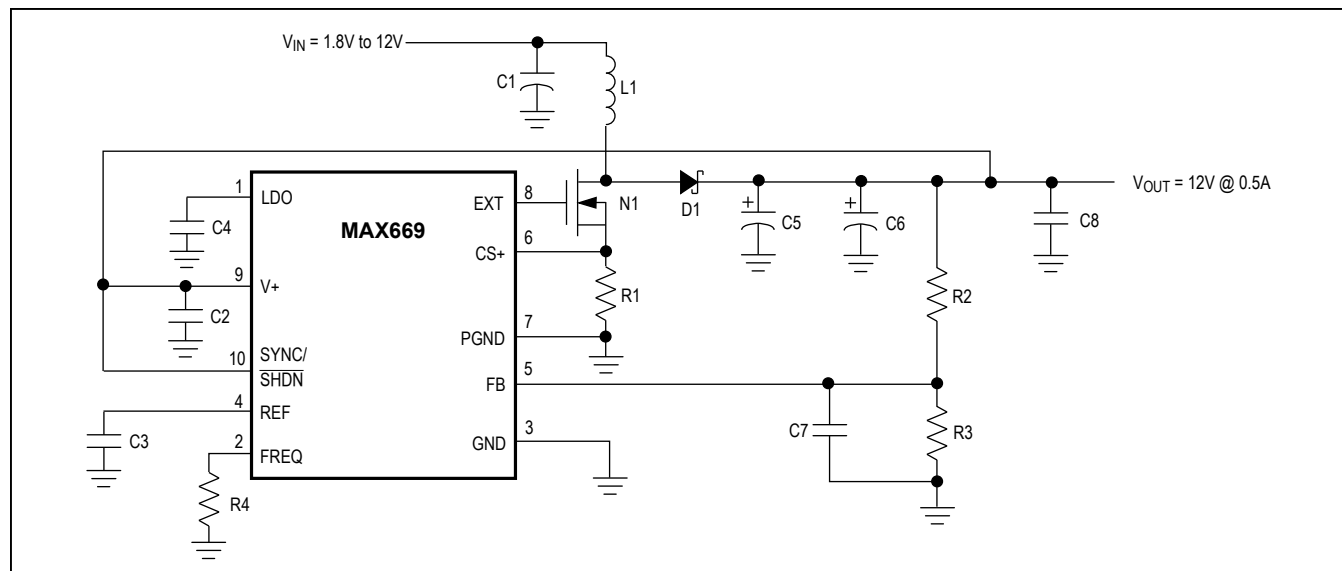
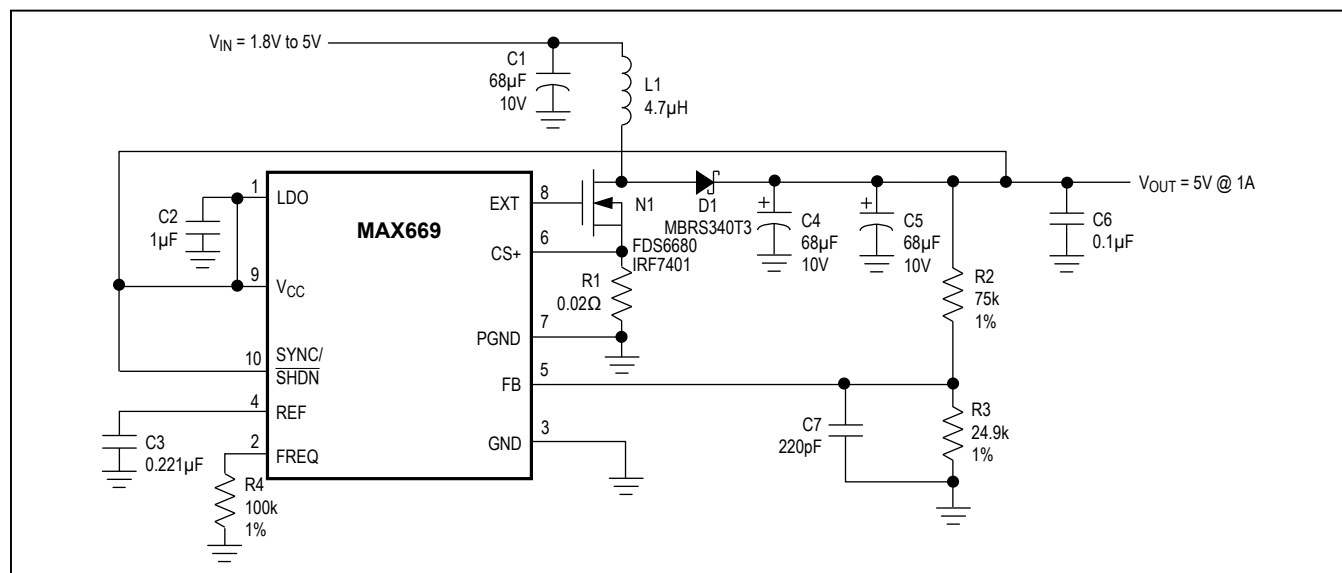
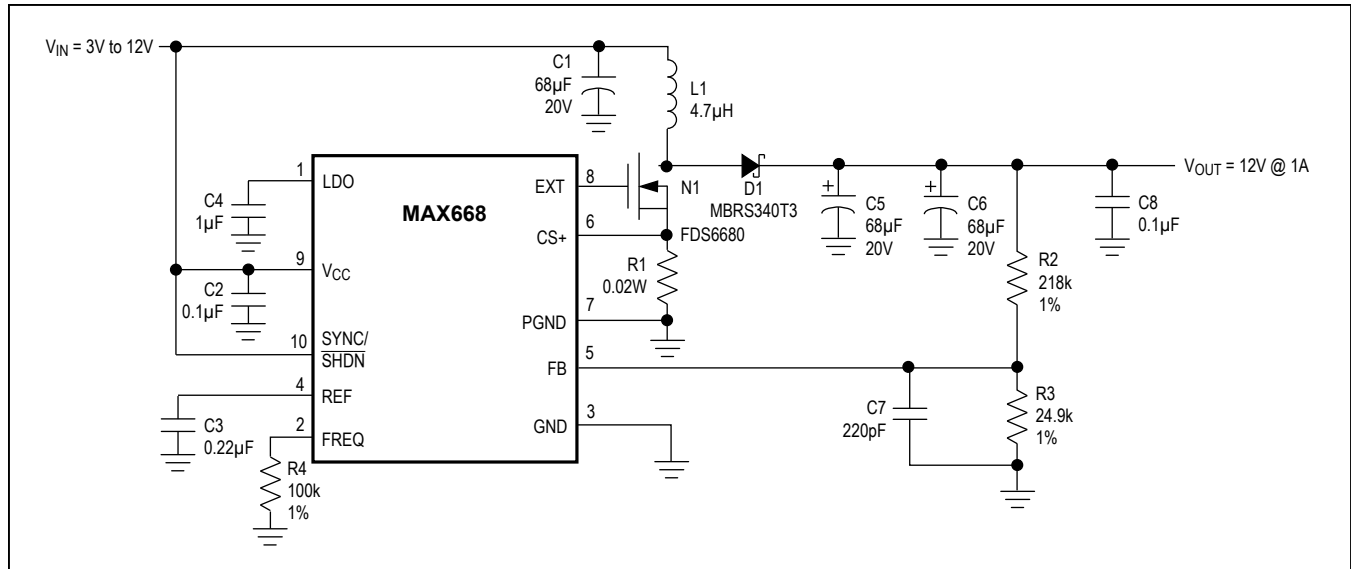
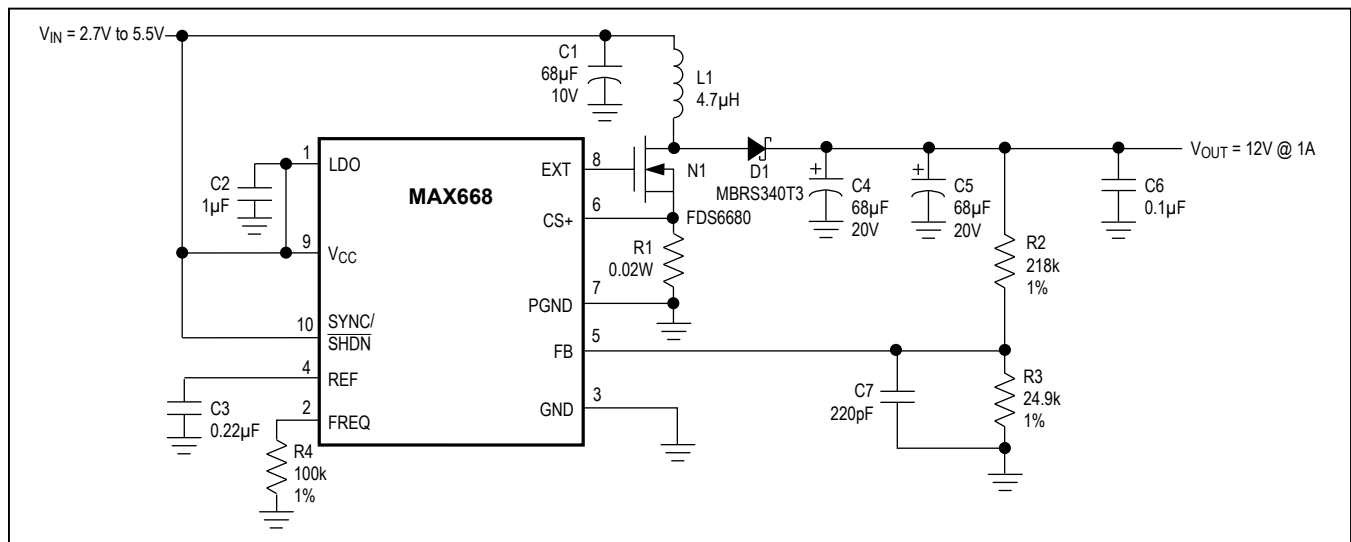

Figure 2. MAX669 High-Voltage Bootstrapped Configuration
Figure 3. MAX669 Low-Voltage Bootstrapped Configuration
Figure 4. MAX668 High-Voltage Non-Bootstrapped Configuration
Figure 5. MAX668 Low-Voltage Non-Bootstrapped Configuration
(Circuits of Figures 2, 3, 4, and 5; $T_A = +25^\circ\text{C}$; unless otherwise noted.)
V_{CC} and LDO allow a variety of biasing connections to optimize efficiency, circuit quiescent current, and full-load start-up behavior for different input and output voltage ranges. Connections are shown in Figure 2, Figure 3, Figure 4, and Figure 5. The characteristics of each are outlined in Table 1.
With V_{CC} connected to V_{OUT} , as in Figure 2, EXT voltage swing is 5V when V_{CC} is 5.2V or more, and $V_{CC} - 0.2V$ when V_{CC} is less than 5.2V. If the output voltage does not exceed 5.5V, the on-chip regulator can be disabled by connecting V_{CC} to LDO (Figure 3). This eliminates the LDO forward drop and supplies maximum gate drive to the external FET.
With non-bootstrapped operation, the IC is powered from the input voltage (V_{IN}) or another source, such as a logic supply. Non-bootstrapped operation (Figure 4) is recommended (but not required) for input voltages above 5V, since the EXT amplitude (limited to 5V by LDO) at this voltage range is no higher than it would be with bootstrapped operation. Note that non-bootstrapped operation is *required* if the output voltage exceeds 28V, since this level is too high to safely connect to V_{CC} . Also note that **only the MAX668 can be used with non-bootstrapped operation**.
If the input voltage does not exceed 5.5V, the on-chip regulator can be disabled by connecting V_{CC} to LDO (Figure 5). This eliminates the regulator forward drop and supplies the maximum gate drive to the external FET for lowest on-resistance. Disabling the regulator also reduces the non-bootstrapped minimum input voltage from 3V to 2.7V.
* For standard step-up DC-DC circuits (as in Figures 2, 3, 4, and 5), regulation cannot be maintained if V_{IN} exceeds V_{OUT} . SEPIC and transformer-based circuits do not have this limitation.
The output voltage is set by two external resistors (R_2 and R_3 , Figure 2, Figure 3, Figure 4, and Figure 5). First select a value for R_3 in the 10k Ω to 1M Ω range. R_2 is then given by:
where $R2$ and $R3$ are the feedback resistors (Figure 2, Figure 3, Figure 4, and Figure 5). If the calculated value for C_{FB} results in a non-standard capacitance value, values from $0.5C_{FB}$ to $1.5C_{FB}$ will also provide sufficient compensation.
In non-bootstrapped configurations (Figure 4, and Figure 5), the MAX668 can start up with any combination of output load and input voltage at which it can operate when already started. In other words, there are no special limitations to start up in non-bootstrapped circuits.
Figure 5 shows the MAX668 operating in a 5V to 12V boost application. This circuit provides output currents of greater than 1A at a typical efficiency of 92%. The MAX668 is operated in non-bootstrapped mode to minimize the input supply current. This achieves maximum light-load efficiency. If input voltages below 5V are used, the IC should be operated in bootstrapped mode to achieve best low-voltage performance.